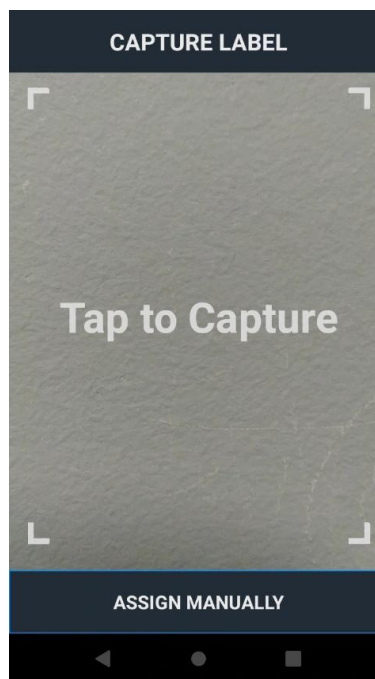

Figure 12: MobileKiosk ready to capture
2. Once in the room, the MobileKiosk will say “Tap to Capture”. See Figure 12. Pick up the MobileKiosk from the cradle.